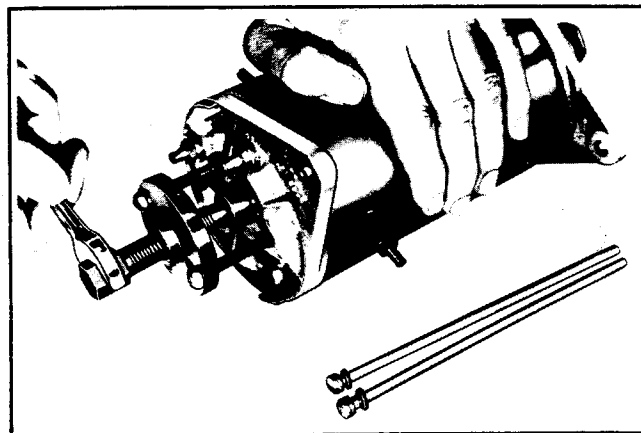

Figure 5E-27J. Removing SIBA Starter-Generator Commutator End Cover
Remove mounting bolt from support arm or spring tensioner, remove V-belt, remove lower mounting bolt or bolts to free starter-generator (See Figure 5E-27F or 5E-27Fa).
#### DISASSEMBLING STARTER-GENERATOR (Fig. 5E-27G SIBA, 5E-27H BOSCH AND 5E-27I HITACHI)
Remove thru bolts (1) and use tool part No. 97294-61B to pull end cover (2) as shown in Figure 5E-27J. Two 1/4-20 x 1-3/4 in. long Part No. 2797B attaching screws are inserted through the puller flange slots and thread into two tapped holes in the commutator end cover.